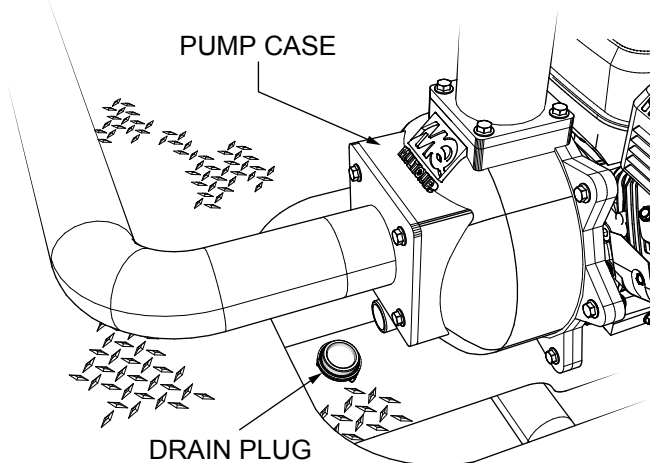

Figure 22. Removing Drain Plug
3. Locate and remove Pump Case Cover drain plug on pump end (Figure 22).